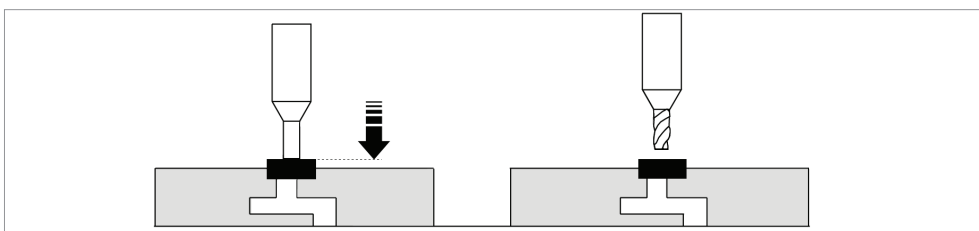

Fig. 19
- 1) Turn off the motor with switch (Q).
- 3) Loosen the top nut (O).
- 5) Turn the nut (N) a few turns clockwise to lower the tracer.
- 6) Turn on the motor with switch (Q).
- 7) Use the lever (J) to lower the vertical carriage until the tracer touches the key in the left-hand clamp (Fig. 19).